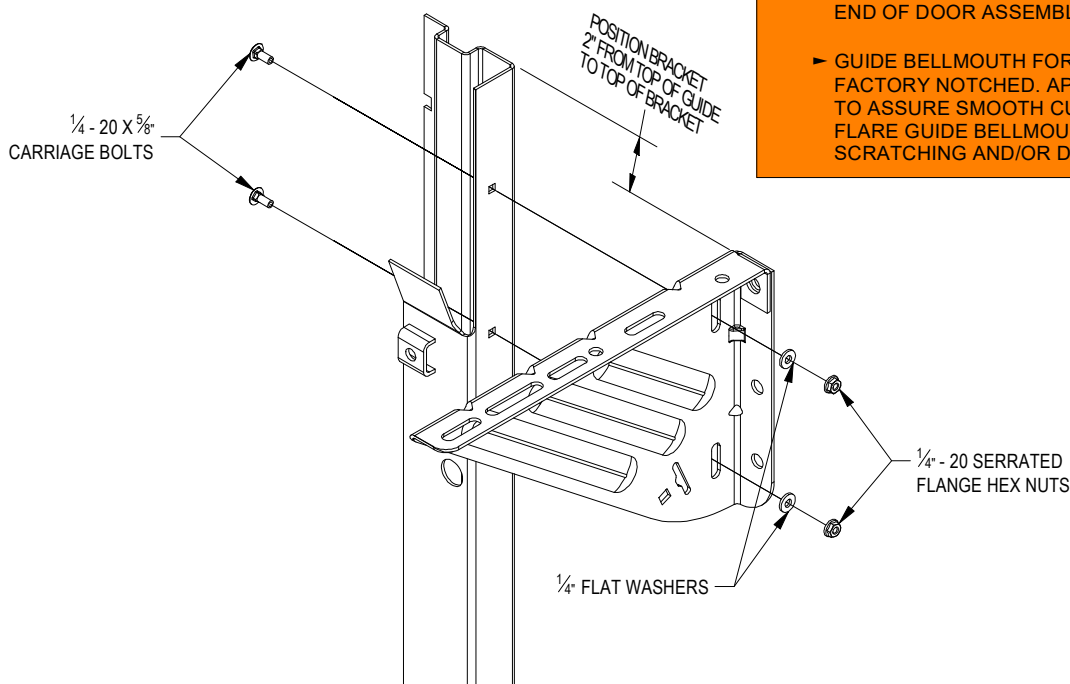

FIGURE 6:
► Attach Commercial Brackets to guides, locating top surface of bracket 2" below top of guide. Use (2) 1/4" - 20 x 5/8" carriage bolts, 1/4" - 20 serrated flange hex nuts and 1/4" flat washers per bracket for tensioner and the non-tensioner (drive) end for push-up operation. See Figure 6.